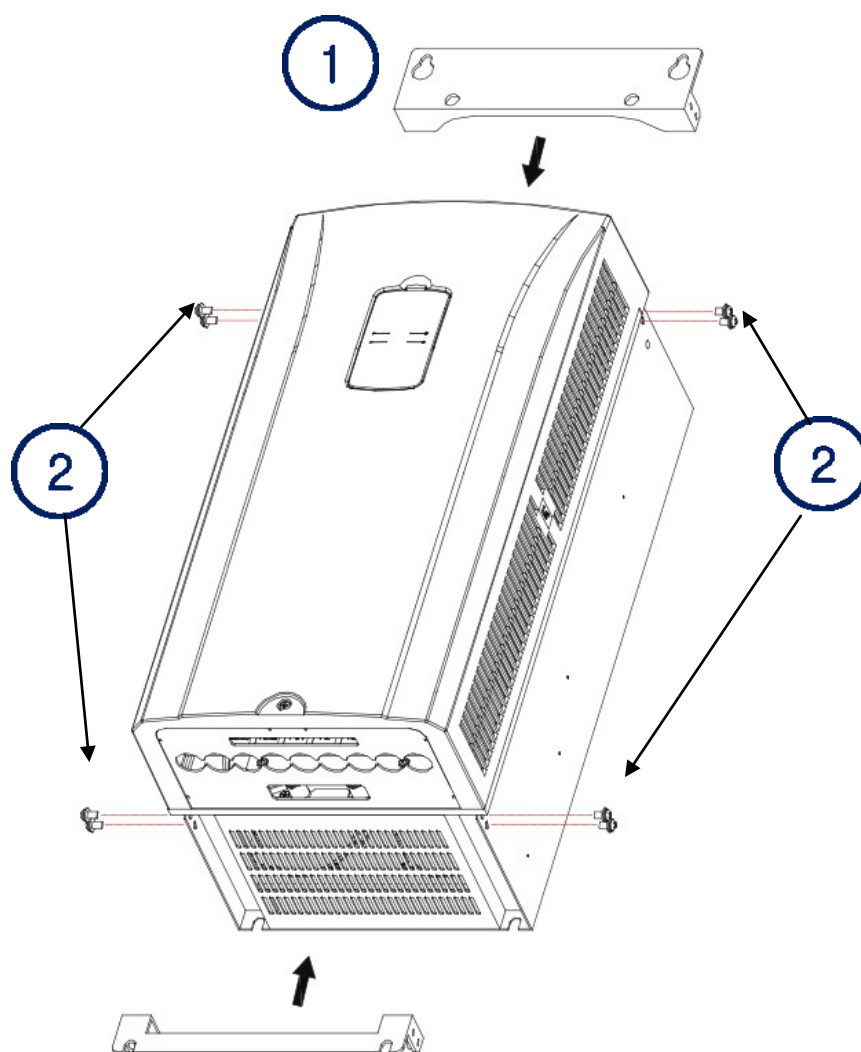

Figure 2. 11 - 75kW Flange Install and Side View
① Insert the Flange Option to fit on the product by fastening the right/left positions as shown Figure 2.
② Using the included bolt, tighten to the specific torque.